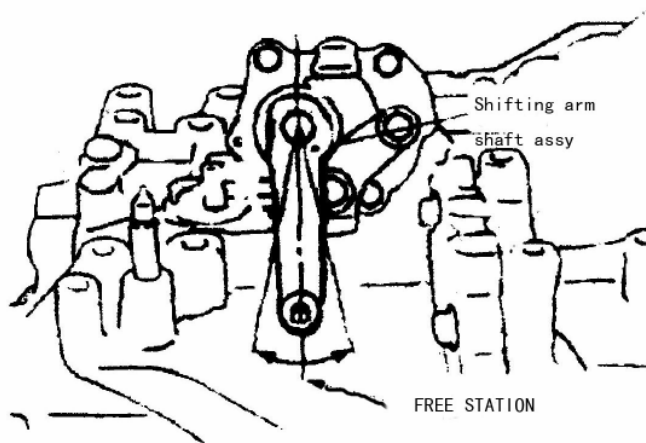

Fig.11-136
a. move the shift lever of transmission to the N postion as Fig.11-136.